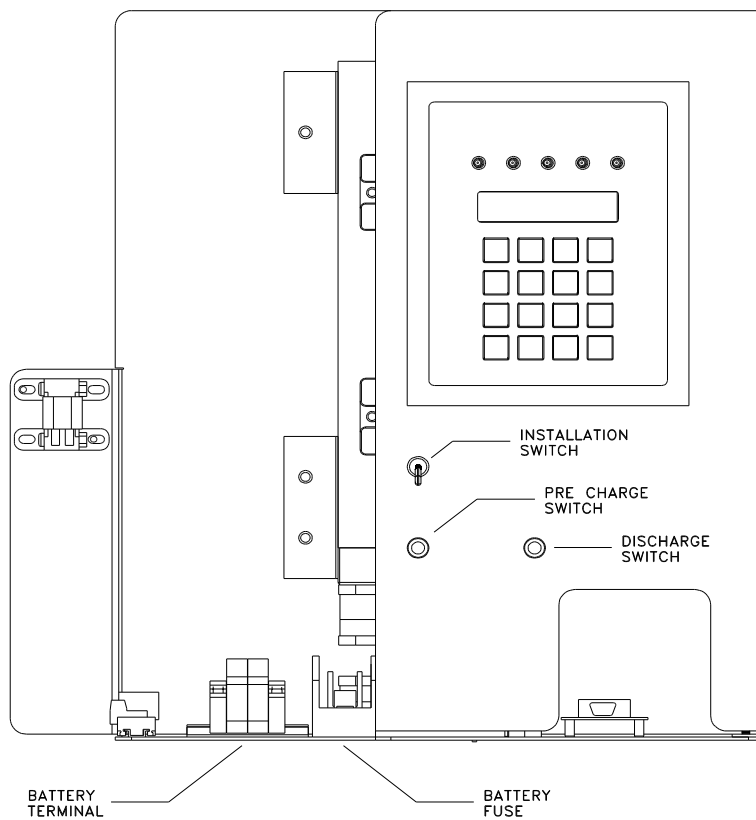

Figure 6.1 Battery Fuse, DC Pre-charge Switch, DC Discharge Switch & Installation Switch
3. Locate the DC Pre-charge Switch (S2), see fig.6.1; press it for five seconds; then, install the battery fuse (F1) inside the electronics cabinet. If a large flash occurs, the batteries are not connected properly. Call service immediately.